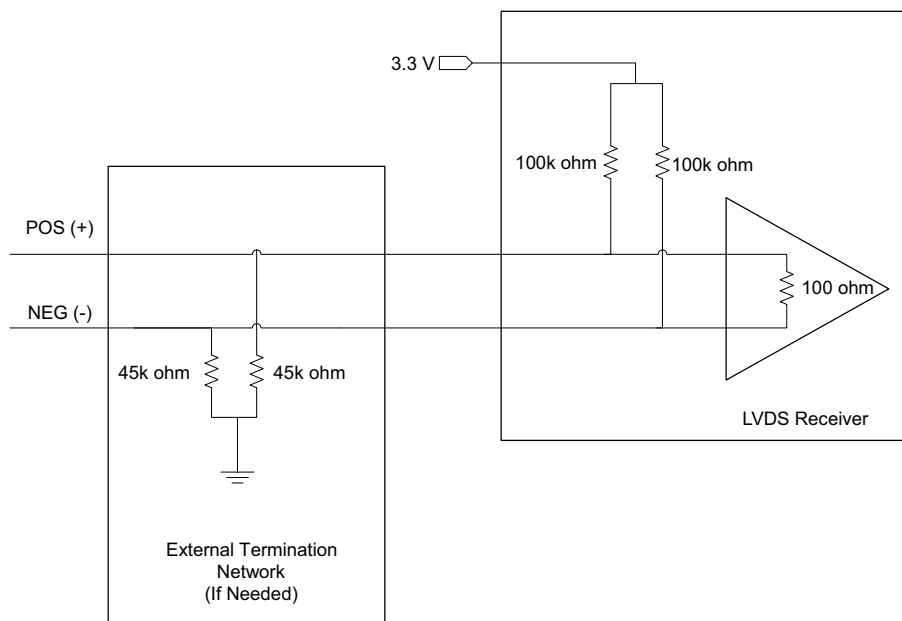

Figure 5. External Terminations: Receiver With 100-Ω Terminations and Pull-Ups
- If the LVDS receiver includes 100-Ω terminations and internal pull-ups (sometimes used for fail-safe), use the type of termination shown in Figure 5. Adjust the external resistor values based on the V_{CC} and internal resistors in order to generate a bias voltage of 1.0 V to 1.2 V.